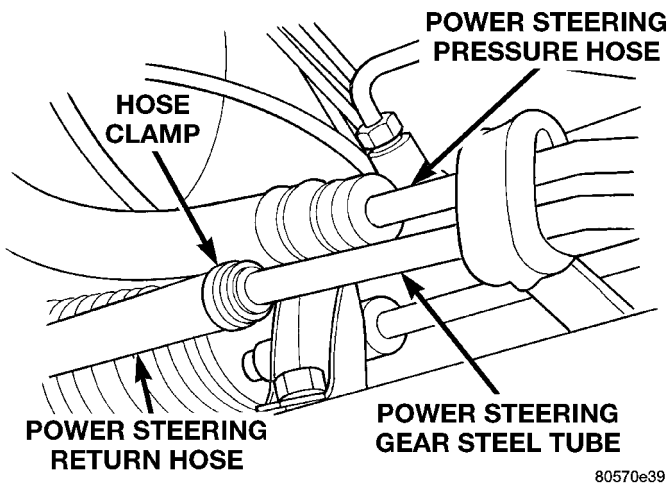
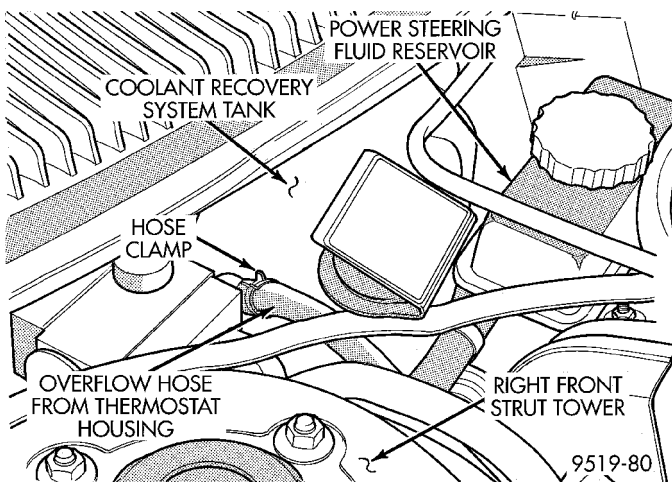

Fig. 30 Power Steering Return Hose At Steering Gear
Fig. 31 Overflow Hose Connection At CRS Tank
(1) Raise vehicle on jack stands or on a frame contact type hoist. See Hoisting in the Lubrication And Maintenance Section of this service manual for the required lifting procedure to be used for this vehicle.
(2) Remove hose clamp, attaching return hose to steel tube at power steering gear (Fig. 30). Let power steering fluid drain from return hose and power steering fluid reservoir, until reservoir is empty.
(3) Lower vehicle.
(4) Remove the coolant overflow hose from the coolant recovery system (CRS) tank (Fig. 31).
(4) Install the coolant overflow hose from the coolant recovery system (CRS) tank (Fig. 31)
(5) Raise vehicle.
(6) Install power steering return hose, on the steel tube at the power steering gear (Fig. 30). **Be sure hose clamp is installed on hose past upset bead on power steering gear steel tube.**
(7) Fill power steering pump fluid reservoir to the proper level.
(8) Start the engine and let run for a few seconds. Then turn the engine off.
(9) Add fluid if necessary. Repeat the above procedure until the fluid level remains constant after running the engine.
(10) Raise front wheels of vehicle off the ground.
(11) Start the engine. Slowly turn the steering wheel right and left, lightly contacting the wheel stops. Then turn the engine off.
(12) Add power steering fluid if necessary.
(13) Lower the vehicle and turn the steering wheel slowly from lock to lock.
(14) Stop the engine. Check the fluid level and refill as required.
(15) If the fluid is extremely foamy, allow the vehicle to stand a few minutes and repeat the above procedure.